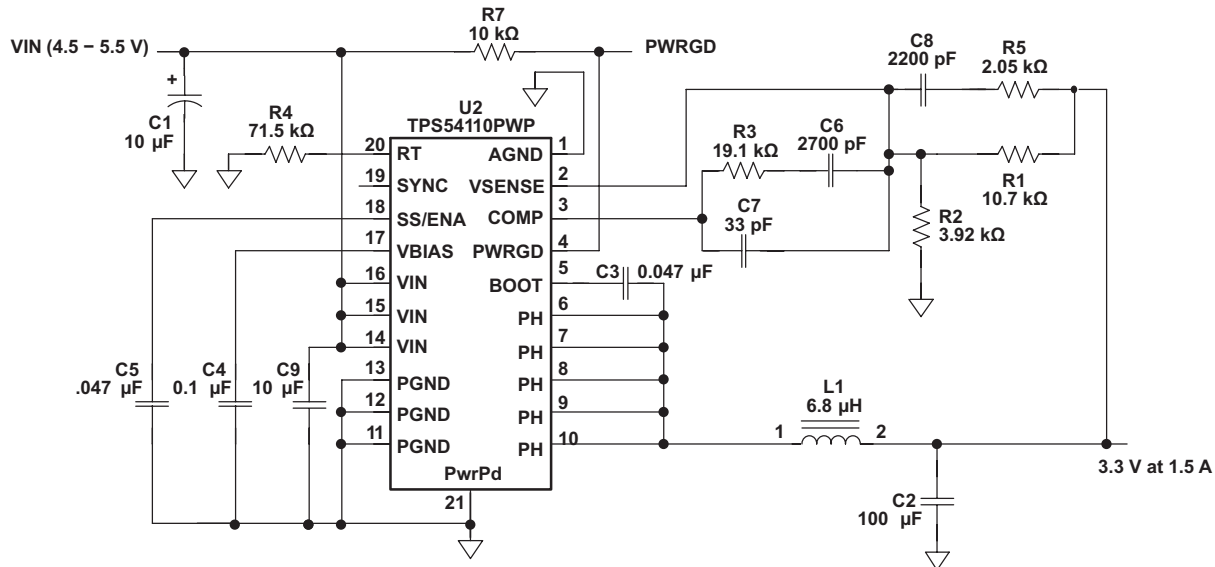

Figure 9. Application Schematic
(1) Specified by design
(2) Static resistive loads only
(3) Specified by the circuit used in Figure 9.
Figure 9 shows the schematic diagram for a typical TPS54110 application. The TPS54110 can provide up to 1.5 A of output current at a nominal output voltage of 3.3 V. For proper thermal performance, the exposed PowerPAD underneath the device must be soldered down to the printed-circuit board.